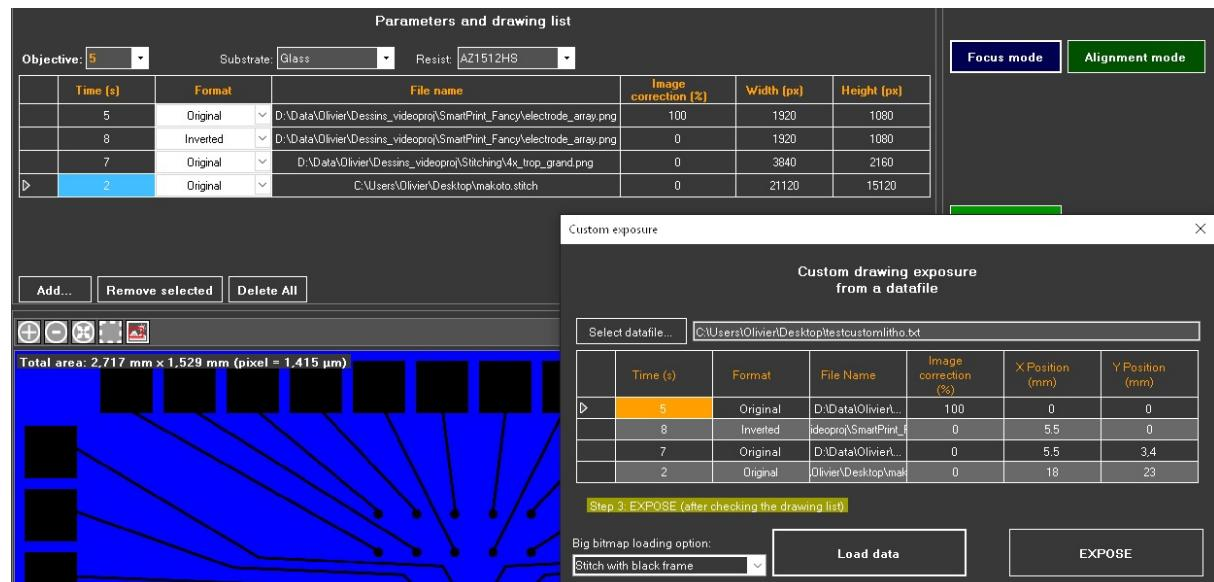

Figure 40 – Custom exposure: data loaded and ready for exposure
- Choose how big drawings must be considered by selecting the appropriate option on the drop-down list **Big bitmap loading option** then click on **Load data**. The list of drawing will update on the main window in the **Parameters and drawing list** panel (Figure 40)
- Click on **EXPOSE** in the **Custom exposure** window (Figure 40)